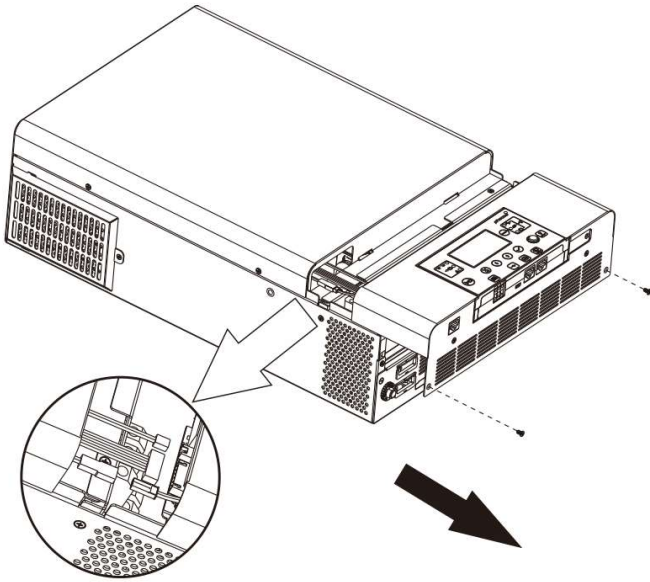

**Fig. 3: Installation of cable glands and battery wiring extension box**
1. Remove faceplate by removing 4 screws (**Fig. 3**, left).
2. Assemble battery wiring extension box and mount in place of the faceplate (**Fig. 3**, right) with screws.
3. Install the 5 included cable glands (**Fig. 3**, right).